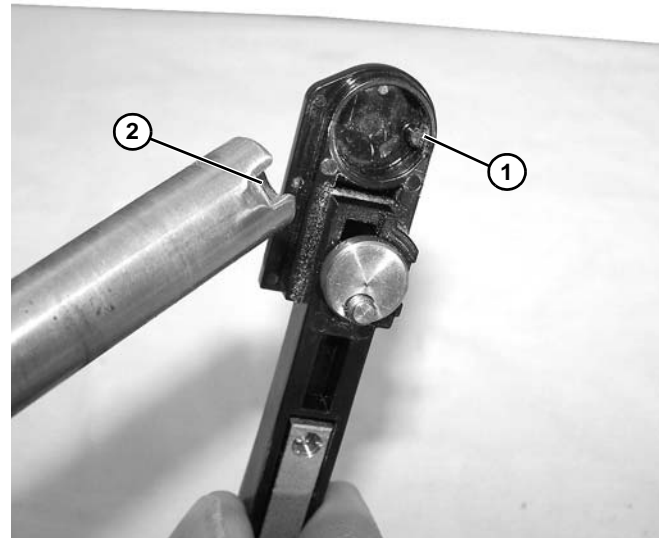

**Figure 42**
5. Install drive gear (**Figure 42, item 1**) onto shaft.
6. Install belt (**Figure 42, item 2**). See “Conveyor Belt Replacement” on page 11.